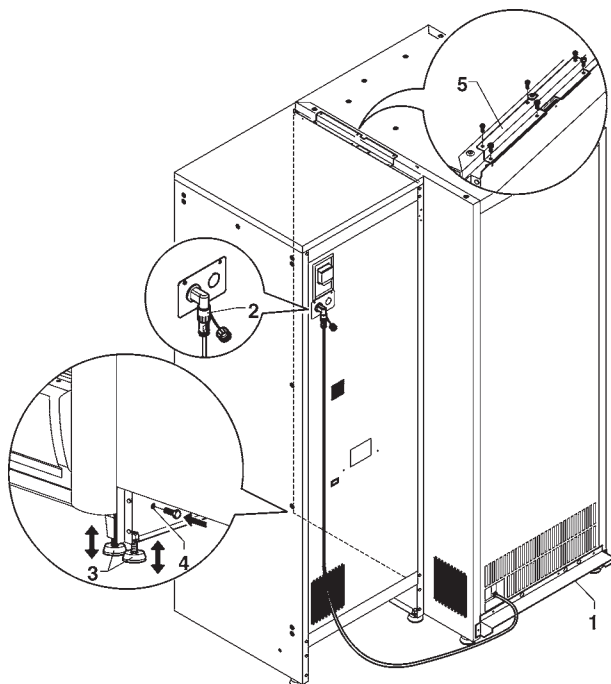

Fig. 15
- Check that side ventilation grilles of the machines equipped with a cooling unit are completely free. Should the ventilation grilles be covered, even partially, due to the layout to be adopted, it will be necessary to fit the spacer (see Fig. 15) supplied with the machine.